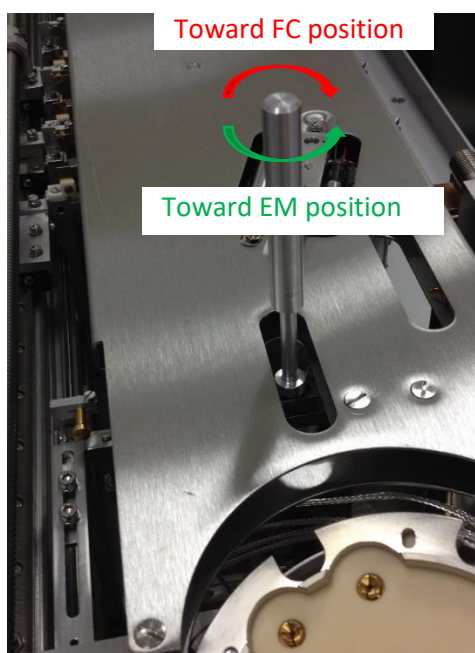

Figure 444: EM/FC switch tool use for the trolley 7
- Move the detector position with the tool by screwing or unscrewing (Figure 444: EM/FC switch tool use for the trolley 7)